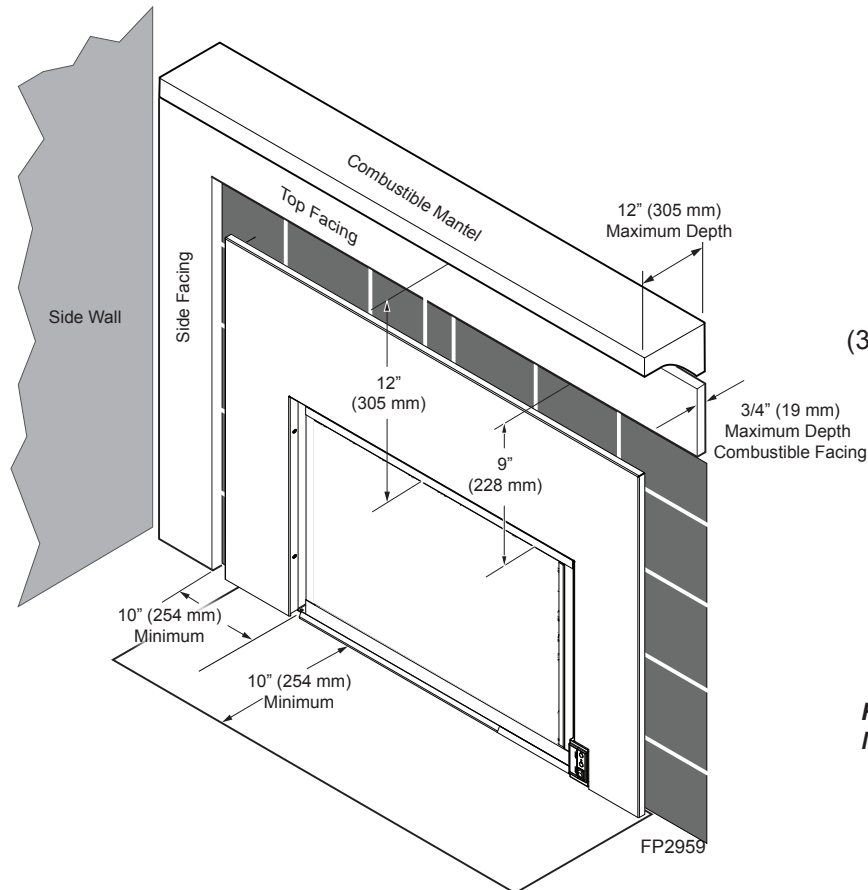

Figure 3 - Mantel Clearances
- Minimum clearances to combustibles, such as mantels, must be maintained. *Refer to Pages 8 and 9, Figures 3, 4 and 5.*
The dimensions shown on Pages 8 and 9, Figures 3 and 4, are minimum clearances to maintain when installing this heater. Follow these instructions carefully to ensure safe installation. Failure to follow instructions exactly can create a fire hazard.